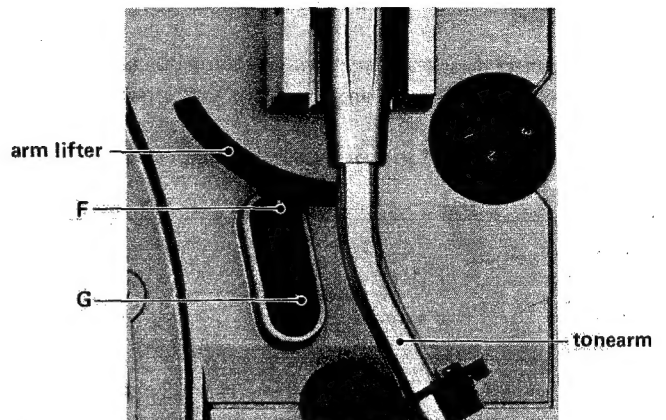

Fig. 4-3
5. At this point, the stylus should be 6 to 10 mm above the record. If not, adjust screw F on the arm lifter (refer to Fig. 4-3).
3. At this point, the stylus should be 6 to 10mm above the record. If not, adjust screw G on the arm lifter (refer to Fig. 4-3 and 4-4).